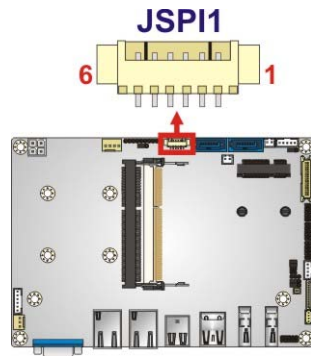

Figure 3-19: SPI Flash Connector Location
- CN Location:** See **Figure 3-19**